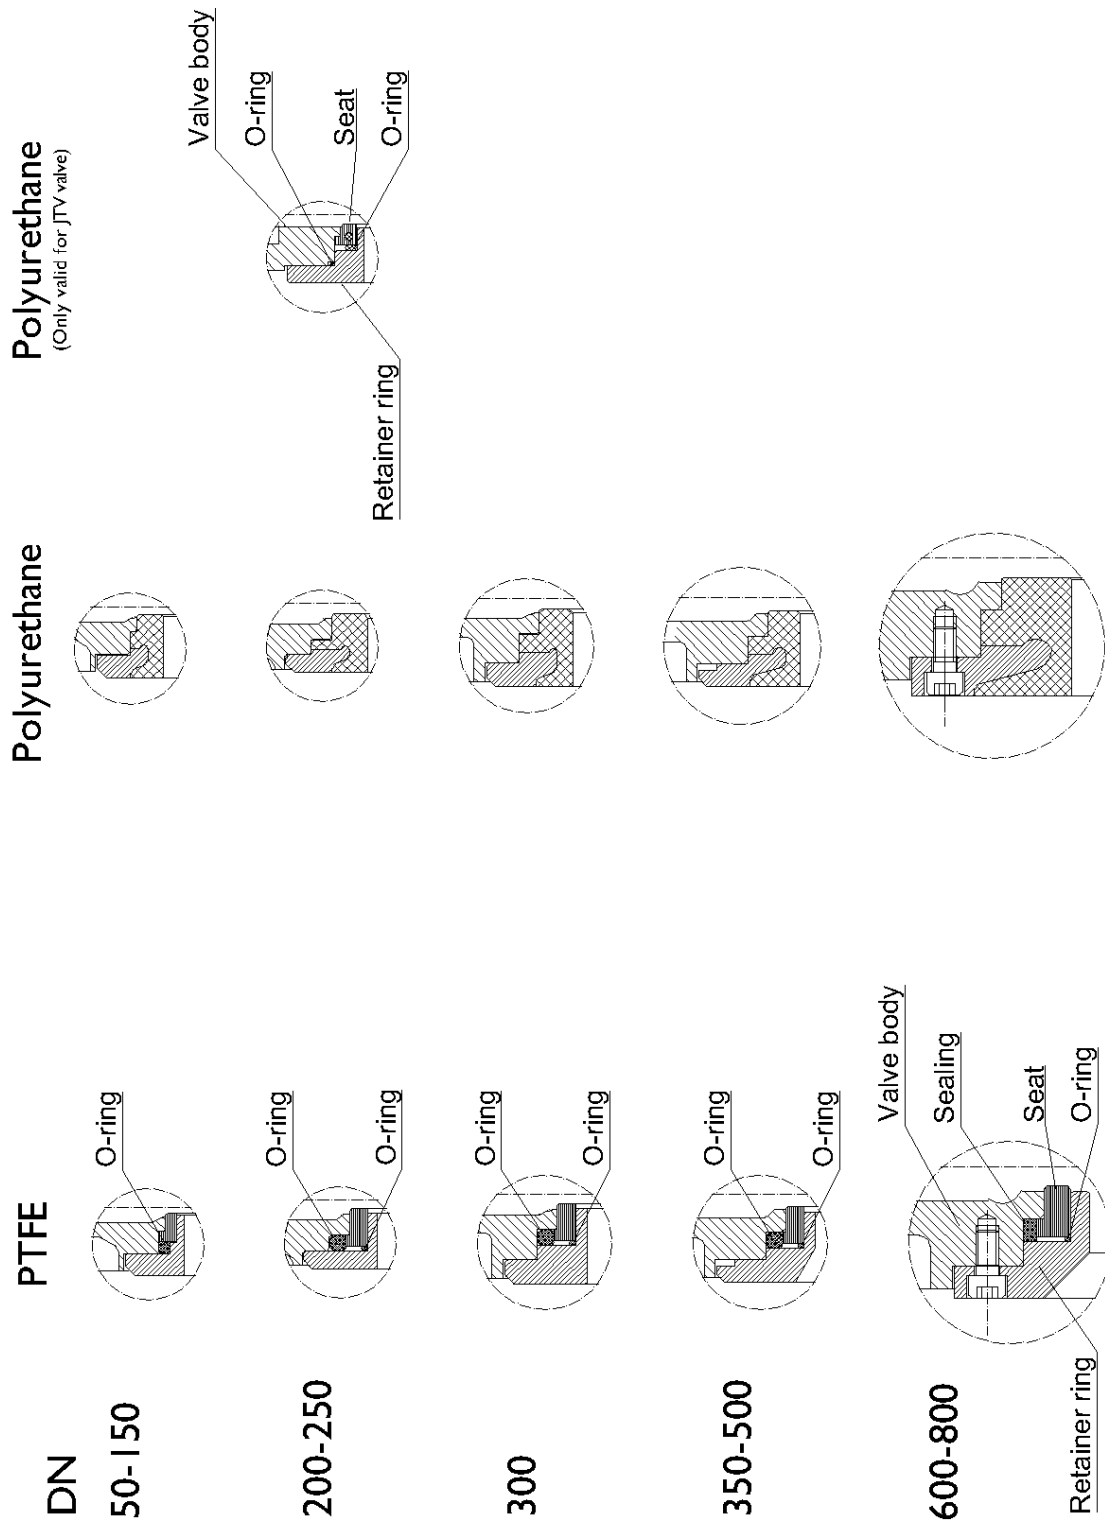

Figure 3 Seat and O-rings
4. Remove the retainer ring (12) by unscrewing the screws (12a) it is fastened with.
5. Lift of the Retainer ring (12). If the retainer ring is stuck, use a screw driver or similar tool and bend carefully between the retainer ring and the valve body in several places around the bore until the ring is loose.
6. Check the gate (6) for damages such as dents and scratches. If the gate is damaged it can wear out the box packing (9) and the seat (13), causing leakage. Stafsjö recommends changing the gate if it is damaged to ensure the function of the valve.
8. Install a new seat (13) on the retainer ring (12) and place the retainer ring in the valve body (10). For PTFE, O-rings (19) must also be installed, see figure 3. Lubricate the seat and the O-rings with a synthetic lubricator to make the installation easier.
9. Lock the retainer ring (12) in place with the screws (12a). The screws function is only to hold the retainer ring in place. The function of the retainer ring will take effect when the valve is mounted between pipe flanges.